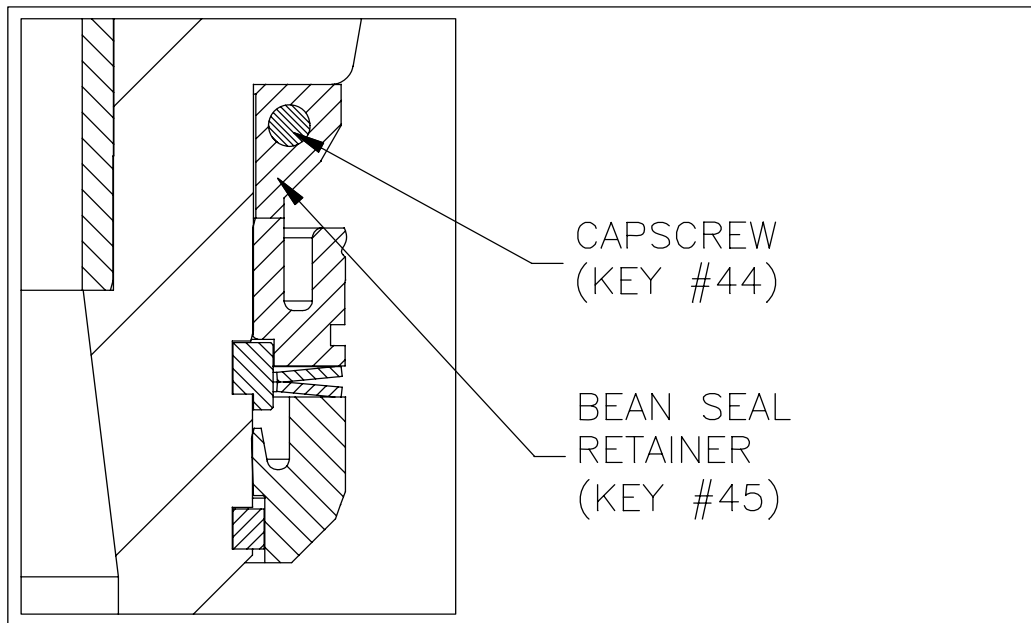

Figure 6.1: Bean Seal Alignment
For removal of the bean seal (item 46), refer to applicable Assembly Drawing (section 7.0) and Figure 6.1 below and proceed as follows:
11. Install bean seal retainer (item 45) and secure with capscrews (item 44). Utilize loctite 271 threadlocker on capscrew threads. (See Figure 6.1). Torque to 4 ft-lbs.